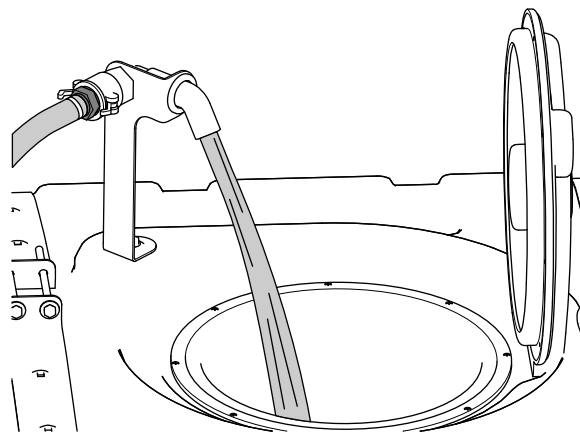

Figure 71
5. Add 3/4 of the required water to the spray tank (Figure 71).